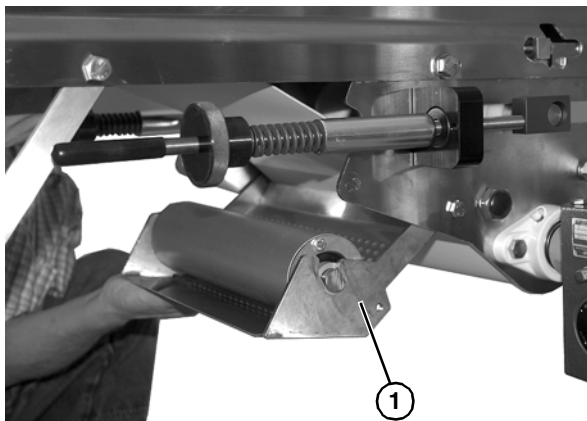

Figure 59
4. Swing down idler guard assembly (Figure 59, item 1).